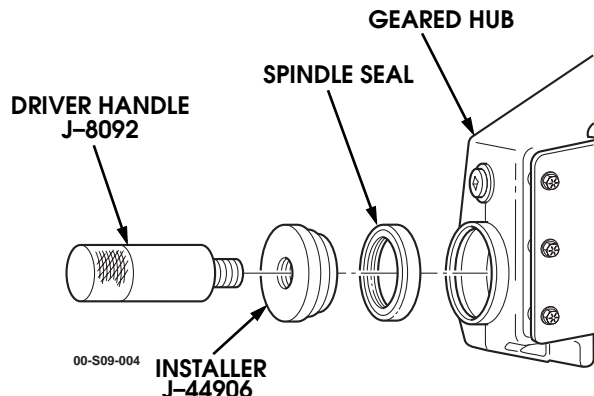

Figure 9-38: Spindle Seal Removal
- Remove spindle seal from geared hub. Discard spindle seal (Figure 9-38).
- Place the new output seal on the installer, with the seamed side of the stainless steel perimeter facing toward the geared hub and drive the seal in until the installer bottoms out on the geared hub surface. The seal will be recessed in the geared hub approximately 0.185". This dimension is critical and must be achieved using the special tool. (Figure 9-38).